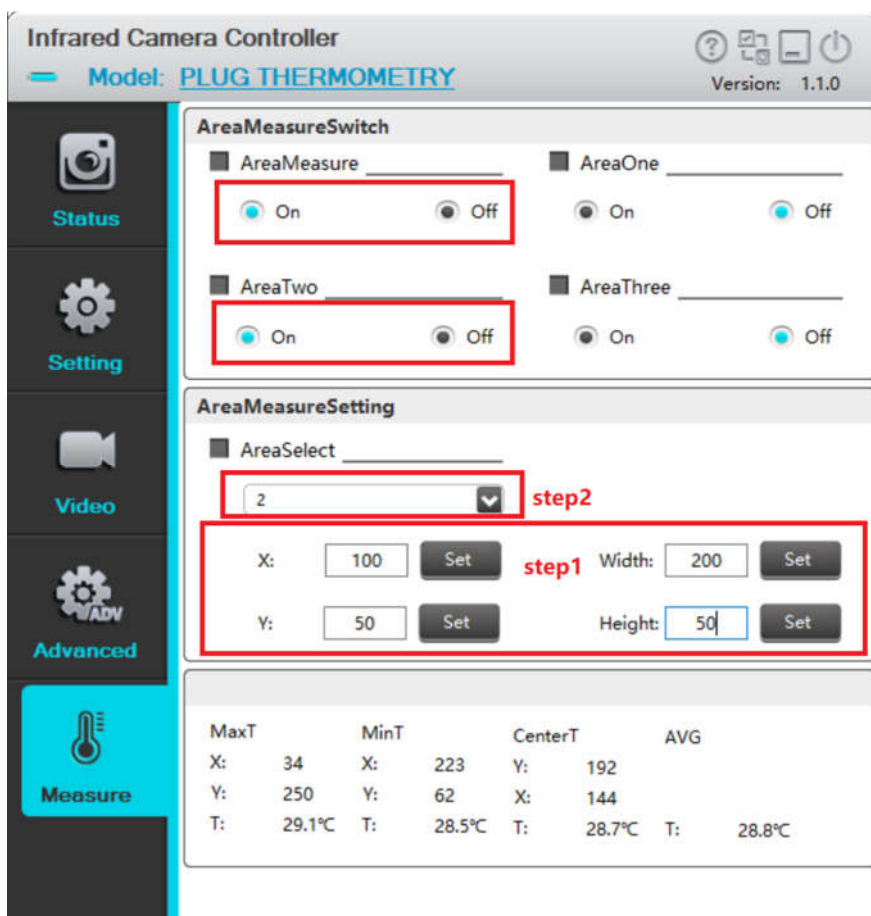

Fig.4-33 Area measurement setting
3. Take the second area region as an example as shown in Fig.4-33.